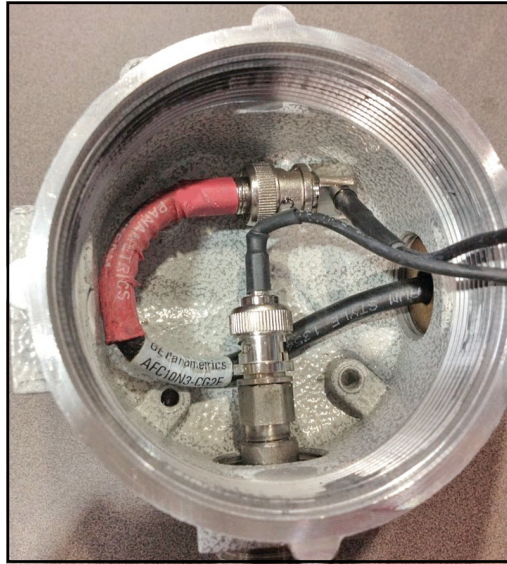

Figure 11: BNC Heads
8. Wrap the extra length of cable around the inside of the junction box such that the BNC heads do not rest on other cables or on each other. The assembly should now look like *Figure 11* below.